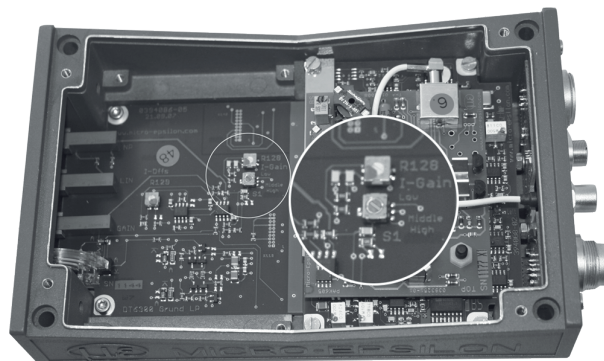

Fig. 20 Limit frequency
- ➡ Set the requested limit frequency using the micro-switch, see Fig. 20.